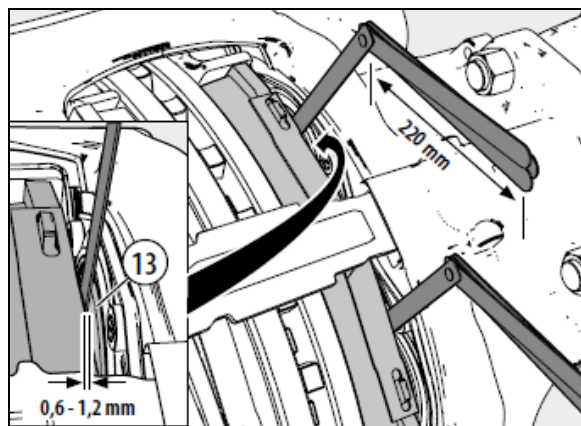

FIGURE 84: CHECK GAP BETWEEN TAPPETS AND INBOARD PAD
9. Set the starting gap by turning the adjuster (23) with the shear adapter (61) backwards and then forwards (note that when turning backwards a noticeable clicking can be heard and felt), until a value of 0.051 in (1.3 mm) air gap has been achieved (measure between the brake pad and tappets (13)).
11. Check the gap between each of the tappets (13) and inboard pad backplate (12). This must be measured over the whole tappet surface of both tappets using two feeler gages simultaneously (feeler gages must be at least 8 ½ in / 220 mm long) (see Figure 84).